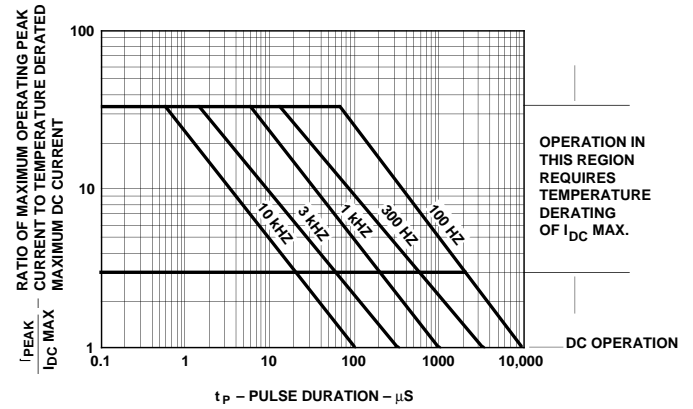

Figure 8. Maximum Allowed Peak Current vs. Pulse Duration – Green.
- See Figure 8 to establish pulsed conditions.